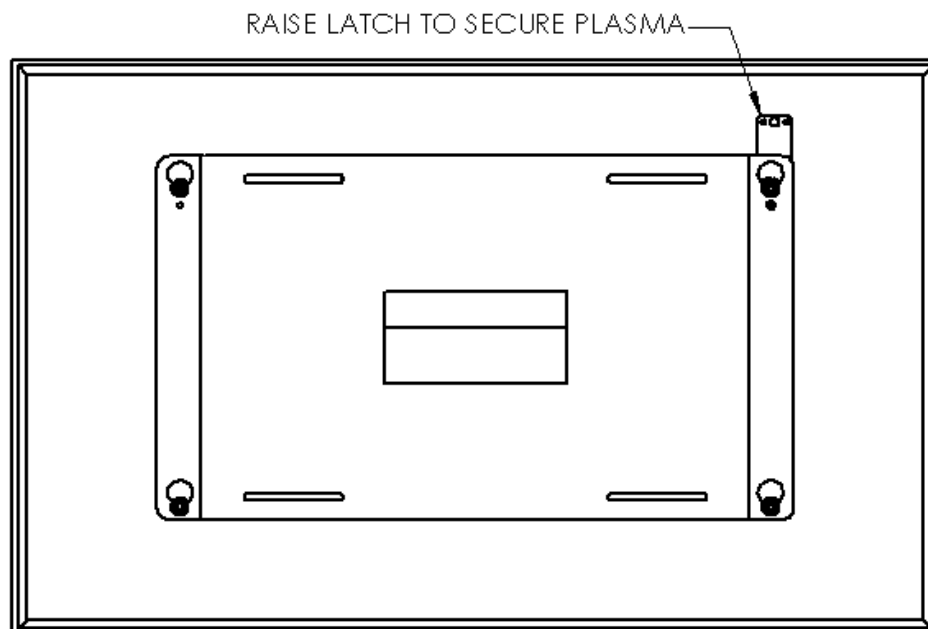

Figure 5
5. With the aid of another person, lift the plasma display up to the mount, align the mounting buttons on the plasma with the teardrop slots in the mount, and set the plasma into place (see Figure 5).